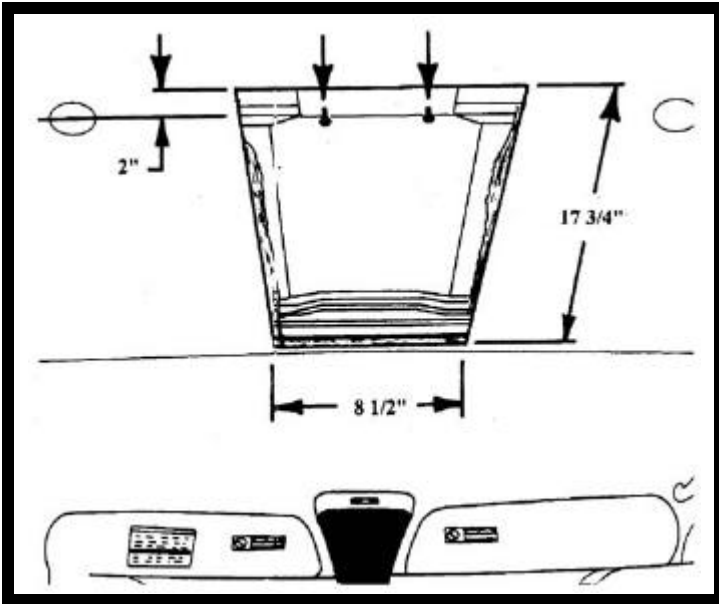

FIGURE 1
Caution: Before cutting headliner material, check for wiring or other componentry above headliner. Cut only where indicated. Make sure that the 8 1/2" cut is centered left to right in vehicle. See Figure 1.
2. Remove and retain (2) two O.E. screws which secures O.E. bracket to roof brace. See Fig. 1.